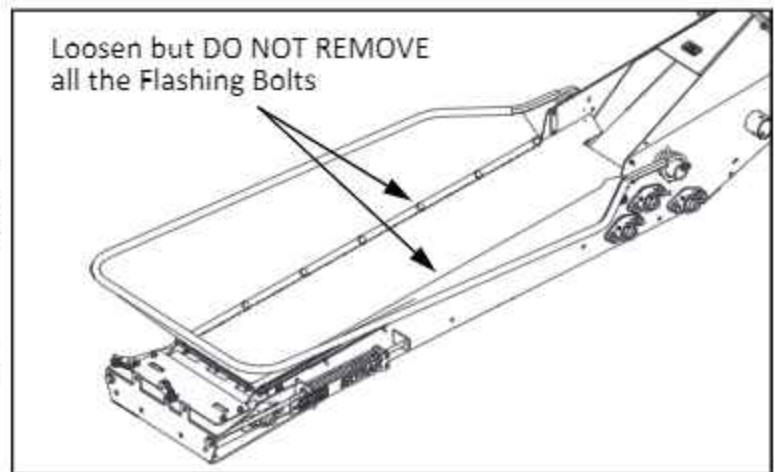

FIG. 3-72. Intake Flashing Bolts
1. Loosen but do not remove all the bolts that hold the intake flashing in place as shown in Fig 3-72. This will ease installation of the belt.